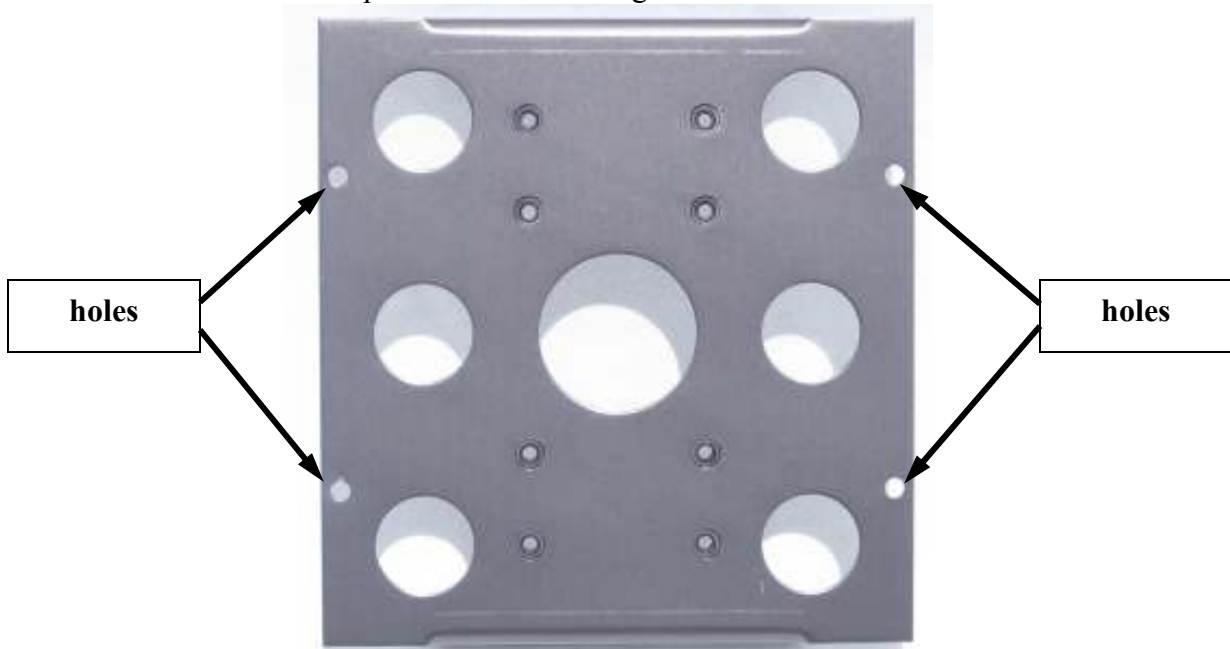
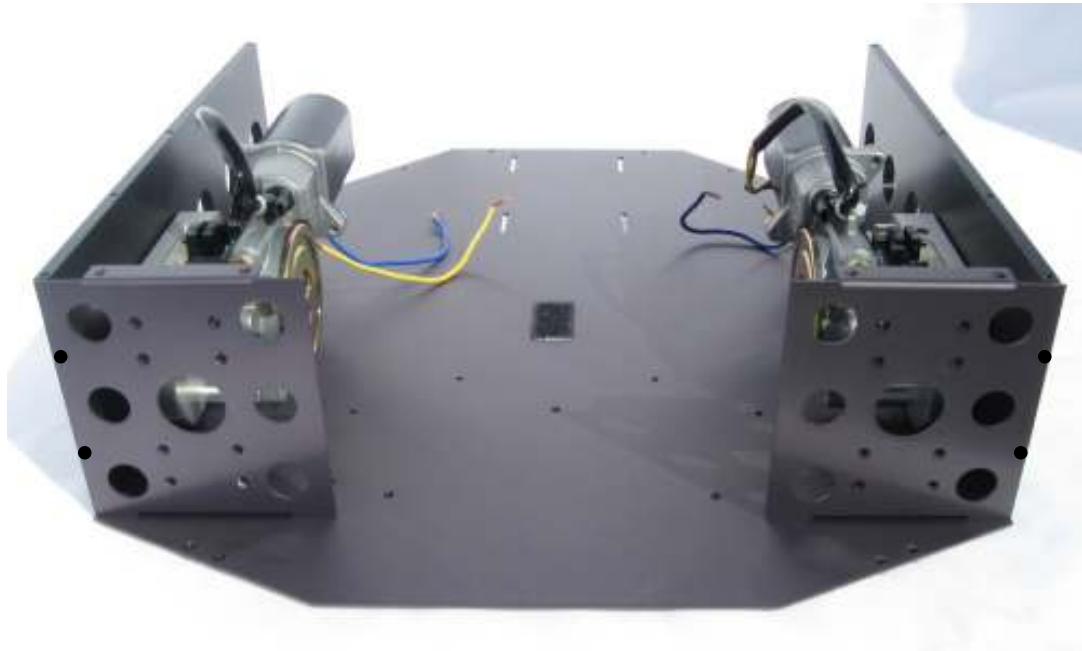

Figure 4
Figure 5
- Using (8) #4 1/4" screws, install the Front Panels (Figure 4) to the Bottom Panel and Motor Mount panels as shown in figure 5.